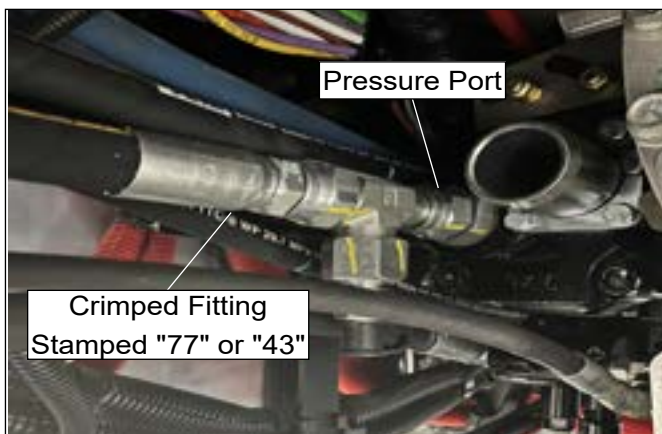

Figure 1 — Hose Connected to Pressure Port
3. Inspect the fittings on each end of the hose (refer to Figures 1 and 2).